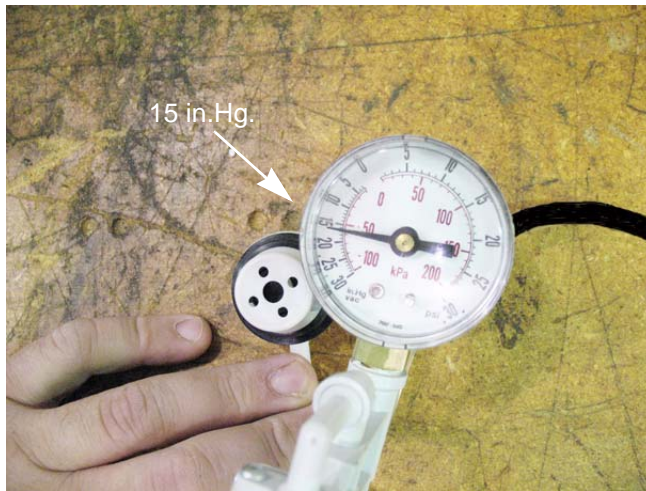

Figure 2.15
4. Apply a vacuum to the roll over valve. See Figure 2.15.